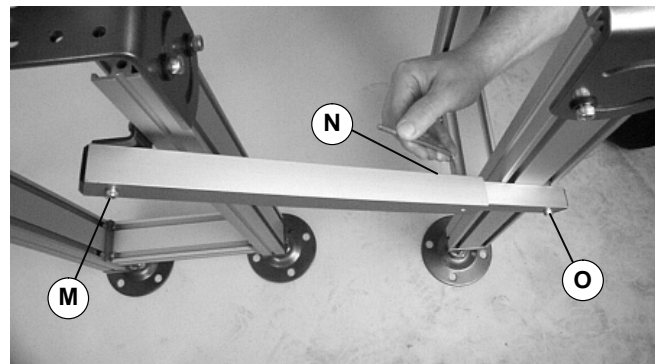

Figure 20
1. Loosen screws (M, N & O of Figure 20).
3. Tighten screws (M, N & O of Figure 20) to 80 in-lb (9 Nm).